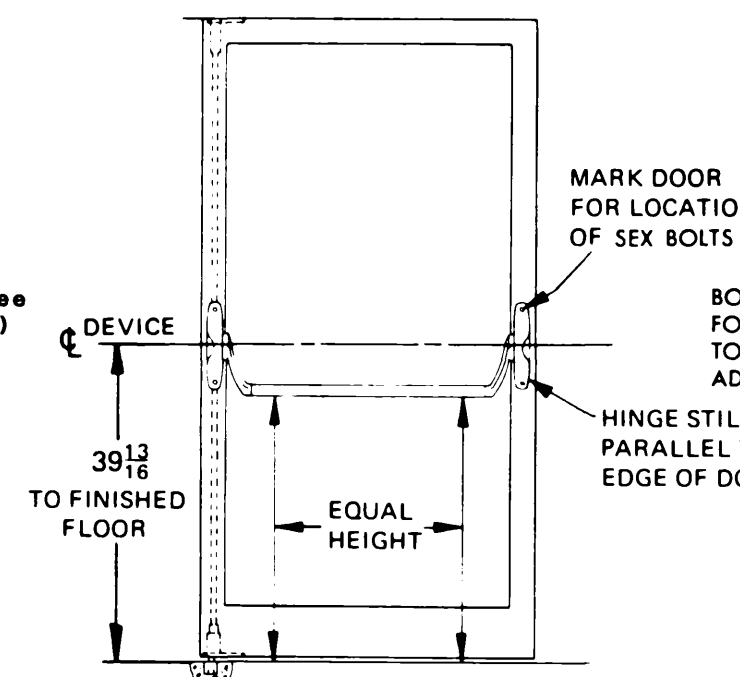

FIG. 5
10. APPLY HINGE STILE CASE AND CROSSBAR TUBE (FIG. 5)